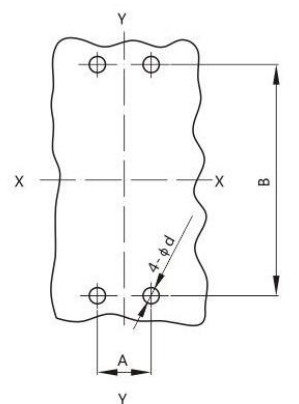

Figure 8 Hole size of front wiring mounting plate
(1) Dimensions of front connection see Figure 8 (X-X, Y-Y is the center of 3P circuit breaker)